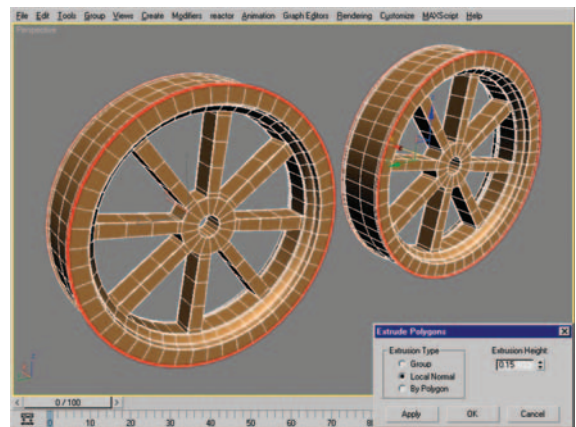

Figure 8.113 Polygon selection (left, one row is on the backside and not visible) and resulting mesh after using Extrude on the selection (right).
24. Select the two rows of polygons seen in Figure 8.113 and use the Extrude settings with an Extrusion Height of 0.15 and Local Normal checked to create the result seen in Figure 8.113 (right). This extrusion creates a small “lip” on the outer surface of the rim.